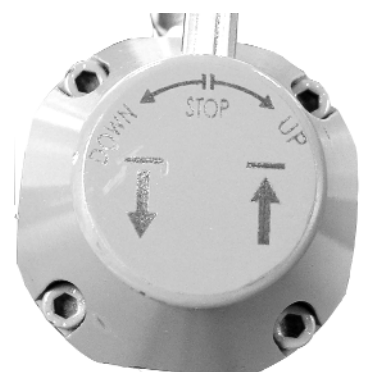

Fig. 7
3.5.2 Ensure that the jack pneumatic lever is in the STOP position before connecting the air supply. Refer to Fig. 7.
- 3.7.2 Turn the pneumatic lever to the right to raise the ram, thus ensuring full internal lubrication and to bleed any air from the system. Refer to Fig. 7.
- 5.1.2 Raise the jack by turning the pneumatic control lever to the right. Refer to Fig. 7.